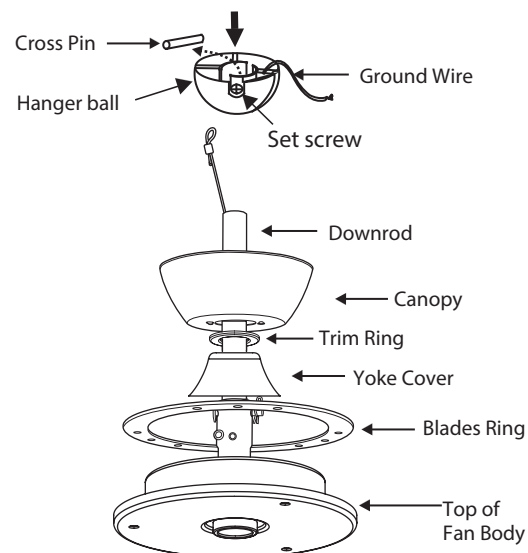

Fig. 3
- 6 Slip the blades ring, yoke cover, trim ring and canopy onto the downrod. (Fig. 3)
- 8 Feed wires through holes in rubber ball moisture cap and slide cap down over top of ball. (Fig. 3)
A DOWNWARD airflow creates a cooling effect as shown in Figure 3. This allows you to set your air conditioner on a warmer setting without affecting your comfort.